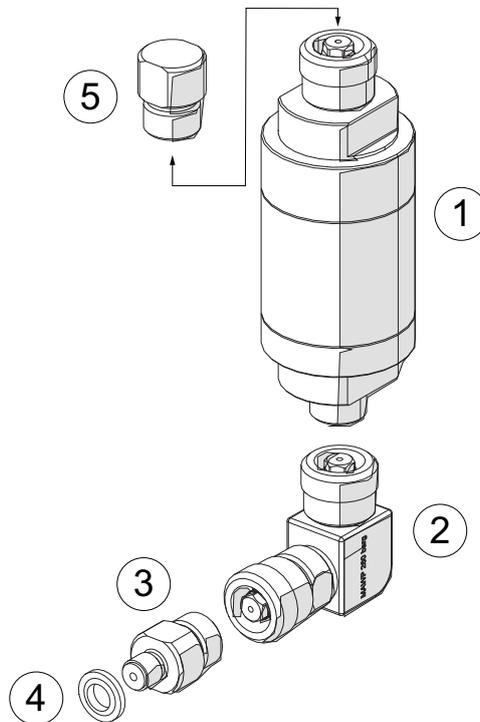

Figure D-4: IOPACE-IDT and IOPACE-IDT-HP Parts
1. Fit the parts together as shown in Figure D-4. Hand-tighten the quick-fit adapter and use spanners to tighten the G1/8 male to AMC adapter with bonded washer.